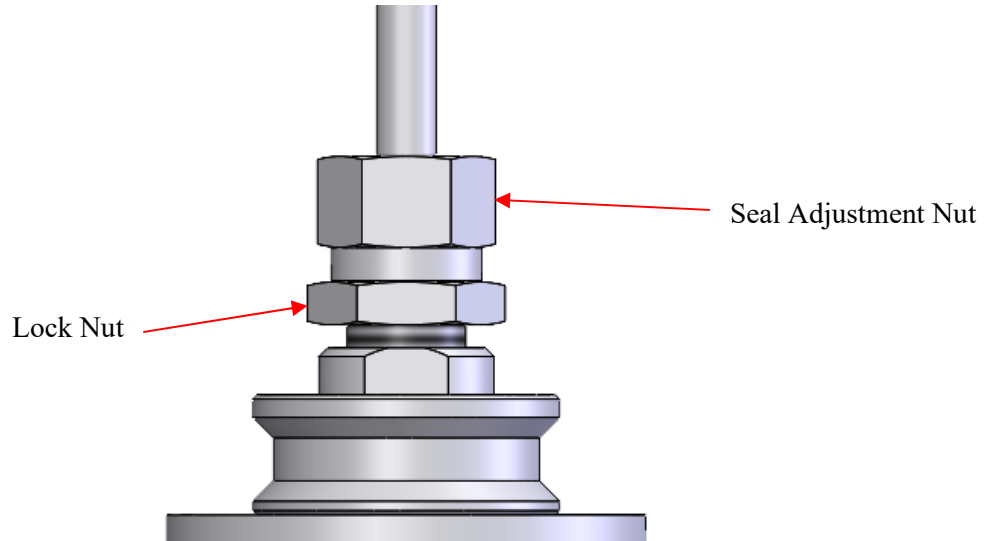

Figure 44: Lock Nut Jammed Against Seal Adjustment Nut
6. Loosen the lock nut and jam it against the seal adjustment nut. See Figure 44.